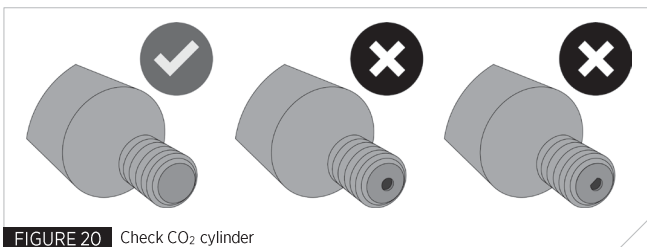

FIGURE 20 Check CO2 cylinder
4. Check that the new CO2 cylinder has not been discharged (Fig 20)
4. Remove and dispose of the used CO2 cylinder. Check that the new CO2 cylinder has not been discharged (Fig 20).